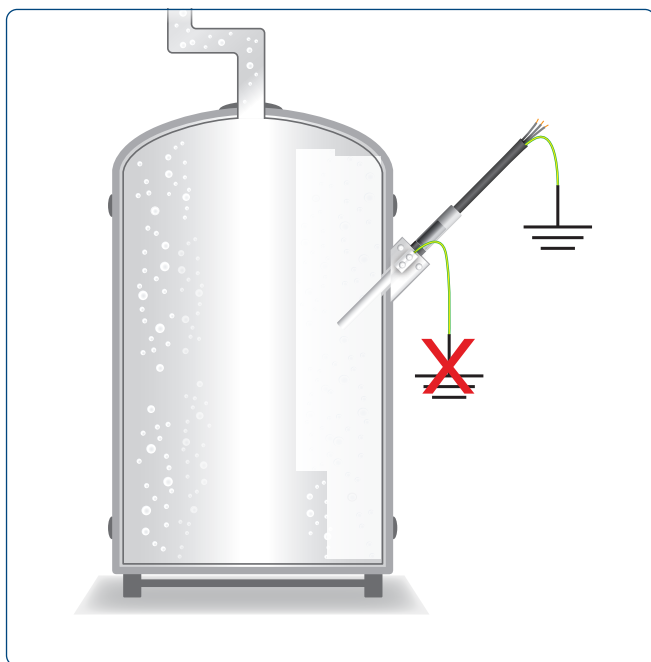

Figure 1: Single-use container with no earth connection: Connect cable shield to earth.
**NOTE: Avoid earth loops (see figure 1), and damage of the sensor due to electrostatic discharge while mounting and dismounting of the sensor or the cable. Do not touch contacts of the connector.**